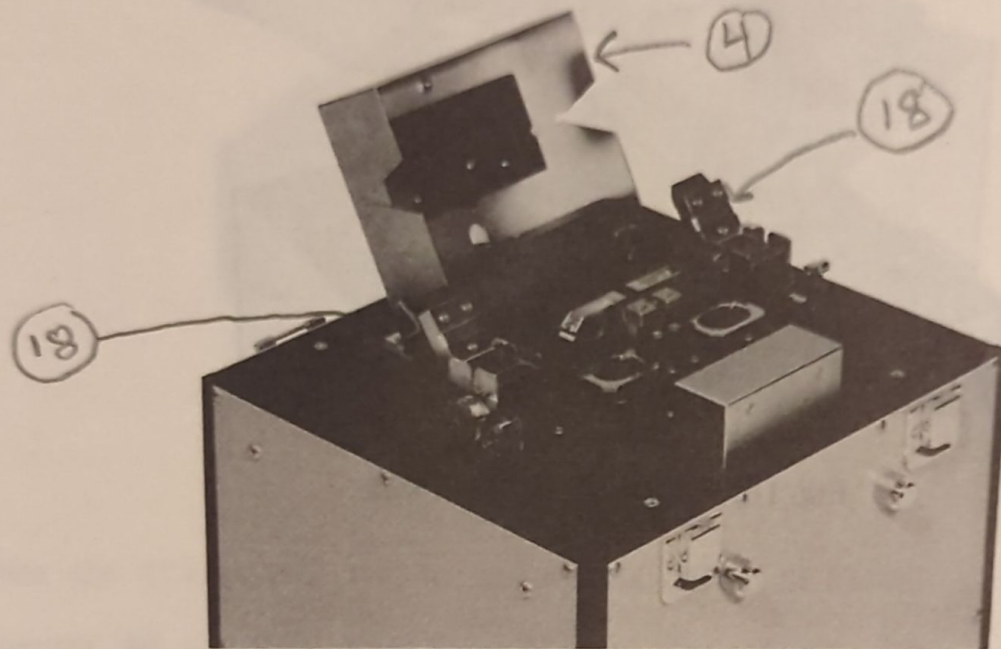

Fig. 14 Opening the Wind Protector
- (1) Cleave the optical fibers to be spliced.
- (2) Rotate down the right and left proof tester dials.
- (3) Open the wind protrector ④ and both chucks of proof tester ⑮. (Refer to Fig. 14)